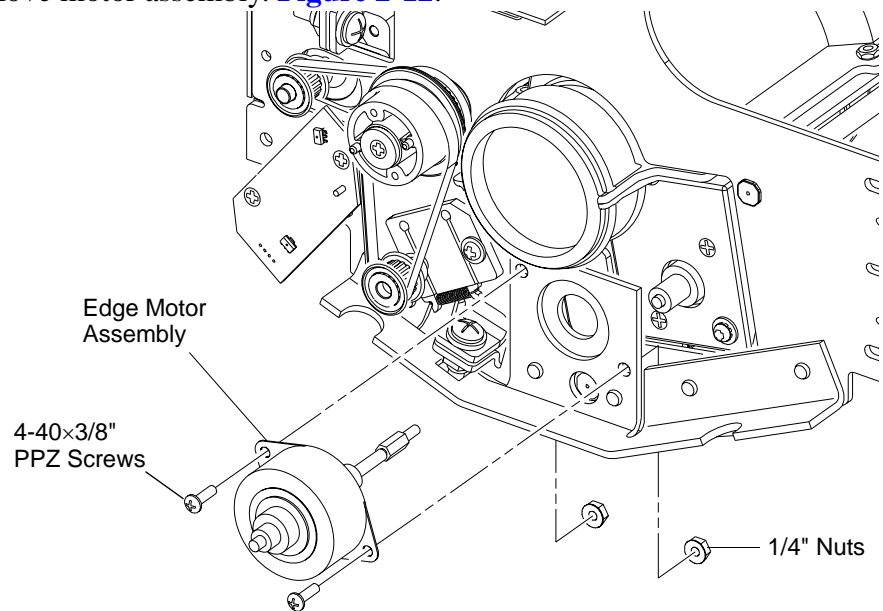

Figure 2-12: Edge Motor Assembly Replacement
Step 7. Remove two 4-40×3/8" PPZ screws and nuts which secure motor to bulkhead and remove motor assembly. **Figure 2-12.**